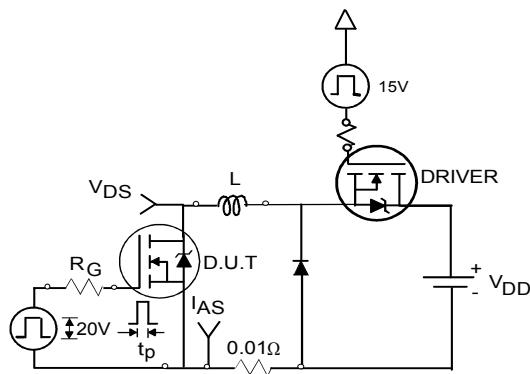

Fig 12a. Unclamped Inductive Test Circuit
- ③ $I_{SD} \leq 78\text{A}$, $di/dt \leq 320\text{A}/\mu\text{s}$, $V_{DD} \leq V_{(\text{BR})\text{DSS}}$, $T_J \leq 175^\circ\text{C}$.
- ④ Pulse width $\leq 400\mu\text{s}$; duty cycle $\leq 2\%$.
- ⑤ $C_{oss\ eff.}$ is a fixed capacitance that gives the same charging time as C_{oss} while V_{DS} is rising from 0 to 80% V_{DSS} .
- ⑥ Calculated continuous current based on maximum allowable junction temperature. Package limitation current is 75A.
- ⑦ Limited by $T_{J\max}$, see Fig.12a, 12b, 15, 16 for typical repetitive avalanche performance.
- ⑧ Uses IRF1407 data and test conditions.
- ⑨ When mounted on 1" square PCB (FR-4 or G-10 Material). For recommended footprint and soldering techniques refer to application note #AN-994
3. Equation below based on circuit and waveforms shown in Figures 12a, 12b.